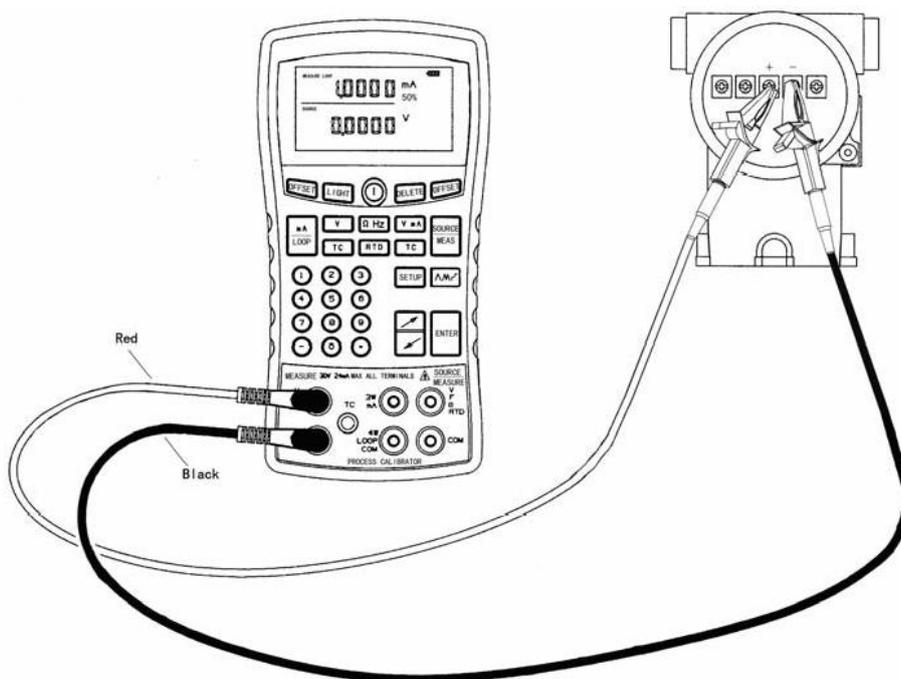

Figure5-3 Connections for Supplying Loop Power
- (1) Press  until the upper display shows "MEASURE LOOP".
- (2) Connect the test leads to the transmitter current loop jacks as shown in Figure5-3.
- (3) The SUP825J Multi-function process calibrator supplies an internal 24V loop power.